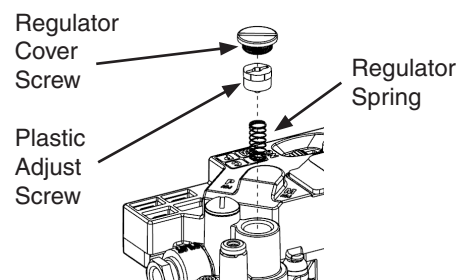

Figure 8 – Pressure regulator adjustment detail
5. Remove regulator cover screw and turn regulator adjust screw clockwise (↻) to increase pressure, or counterclockwise (↺) to decrease pressure (see fig. 8). Always adjust regulator to provide the correct pressure according to the original equipment manufacturer's specifications listed on the appliance rating plate. Replace regulator cover screw and tighten securely.